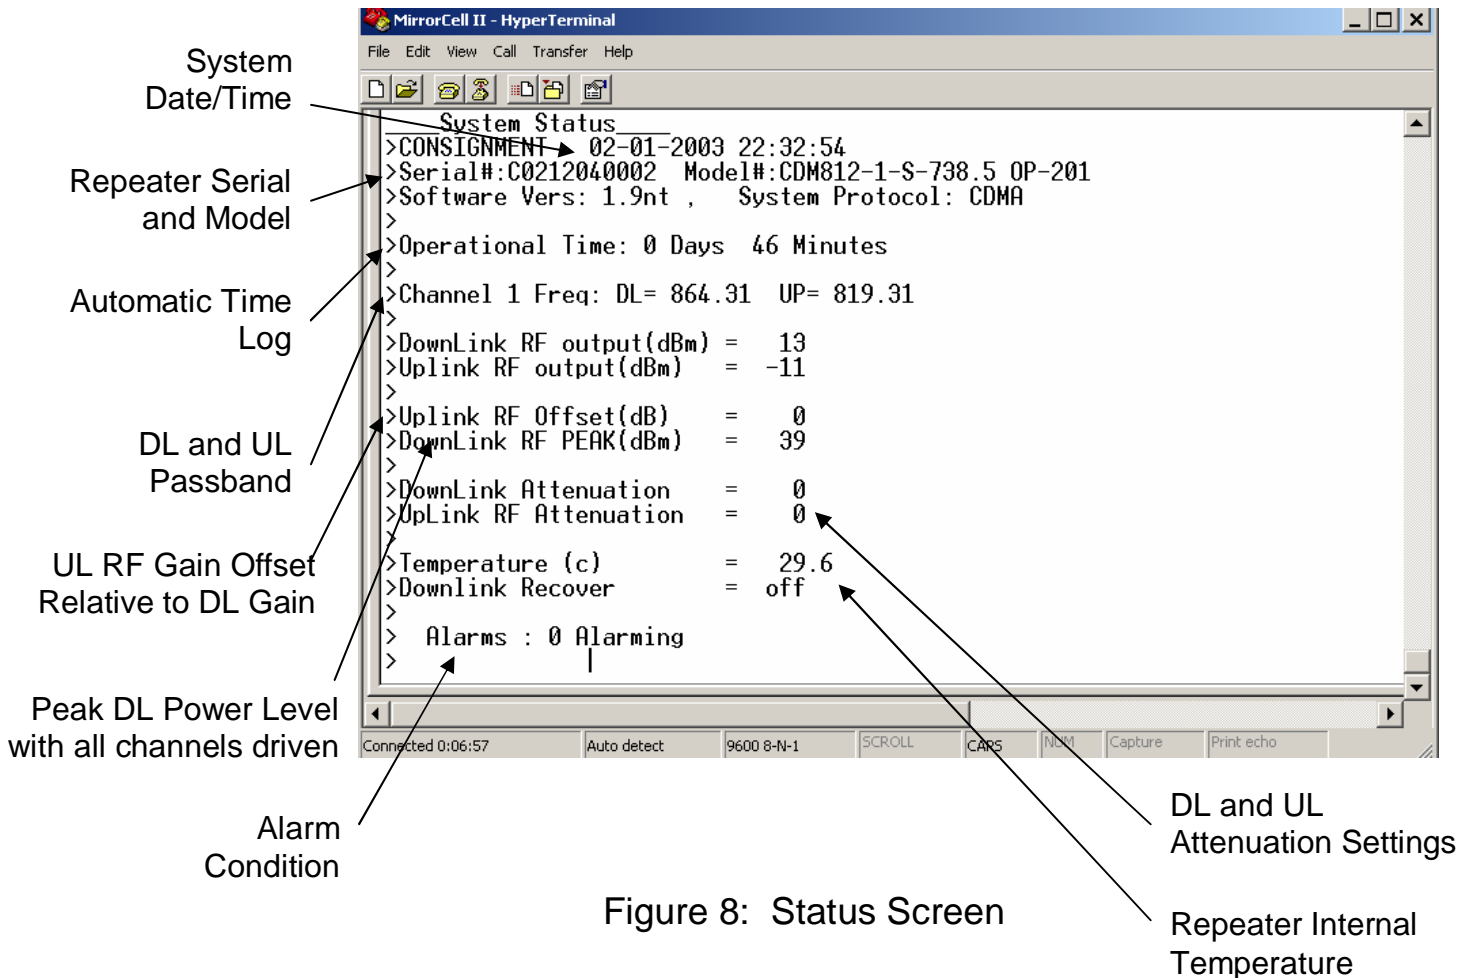

Figure 8: Status Screen
- Type 'STATUS' and press 'enter' to verify the current repeater settings. Also, the 'STATUS' command can be used after every software parameter is changed to verify the current setup. The screen should appear similar to Figure 8 below.